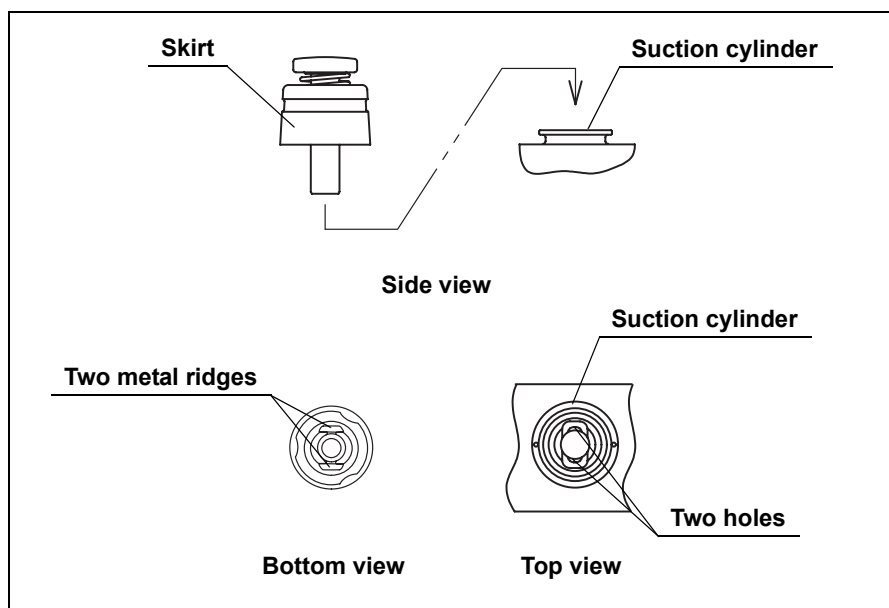

Figure 3.15
2. Attach the suction valve to the suction cylinder of the endoscope (see Figure 3.15). Confirm that the valve fits properly without any bulging of the skirt. Also confirm that the valve cannot be rotated.